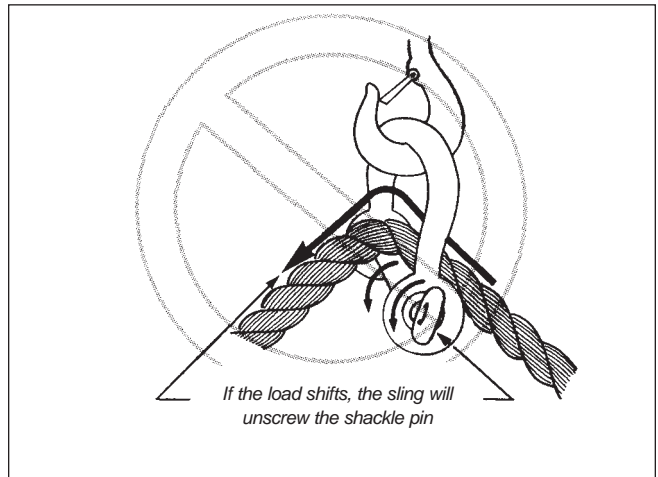

Figure 22
- Do not use screw pin shackles if the pin can roll under load and unscrew (Figure 22).